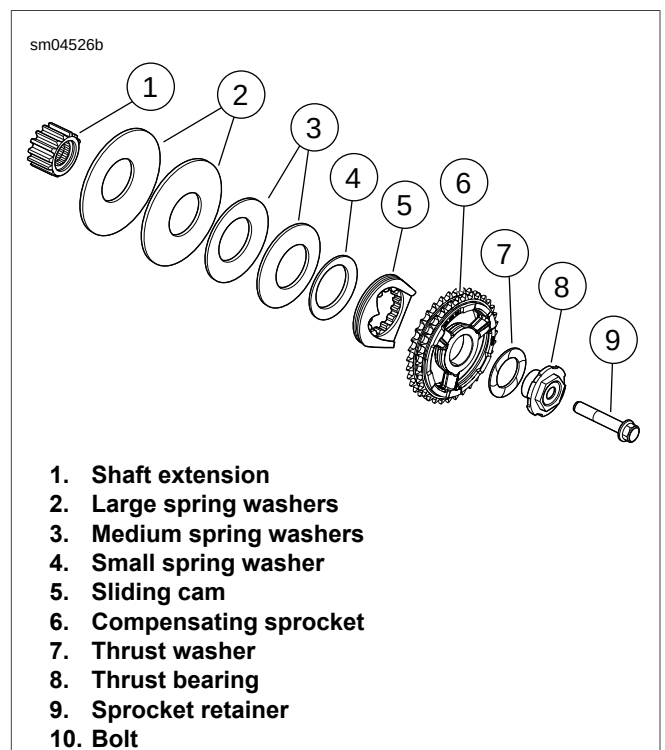

Figure 5-9. Engine Compensating Sprocket Assembly
14. See Figure 5-9. Remove bolt (9) and washer (7).